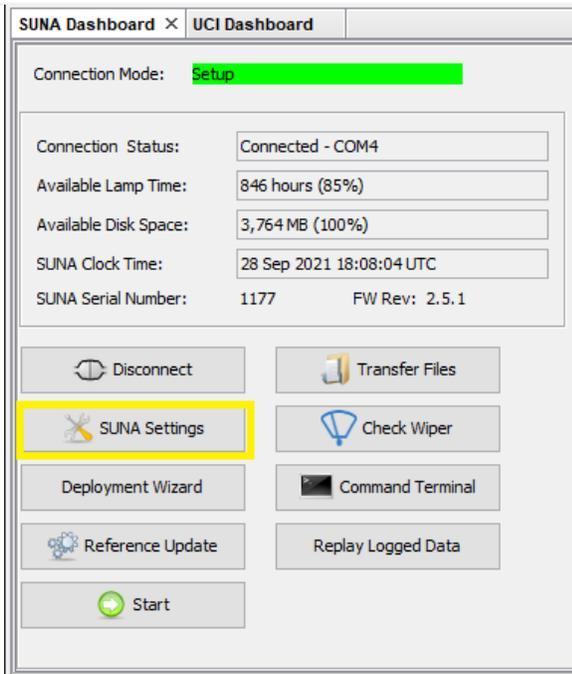

Figure 30. Select SUNA Settings
**STEP 3** | Click the “SUNA Settings” button in the SUNA Dashboard window. (Figure 30)
**STEP 7** | Open the "SUNA Settings" window as previously shown in Figure 30.